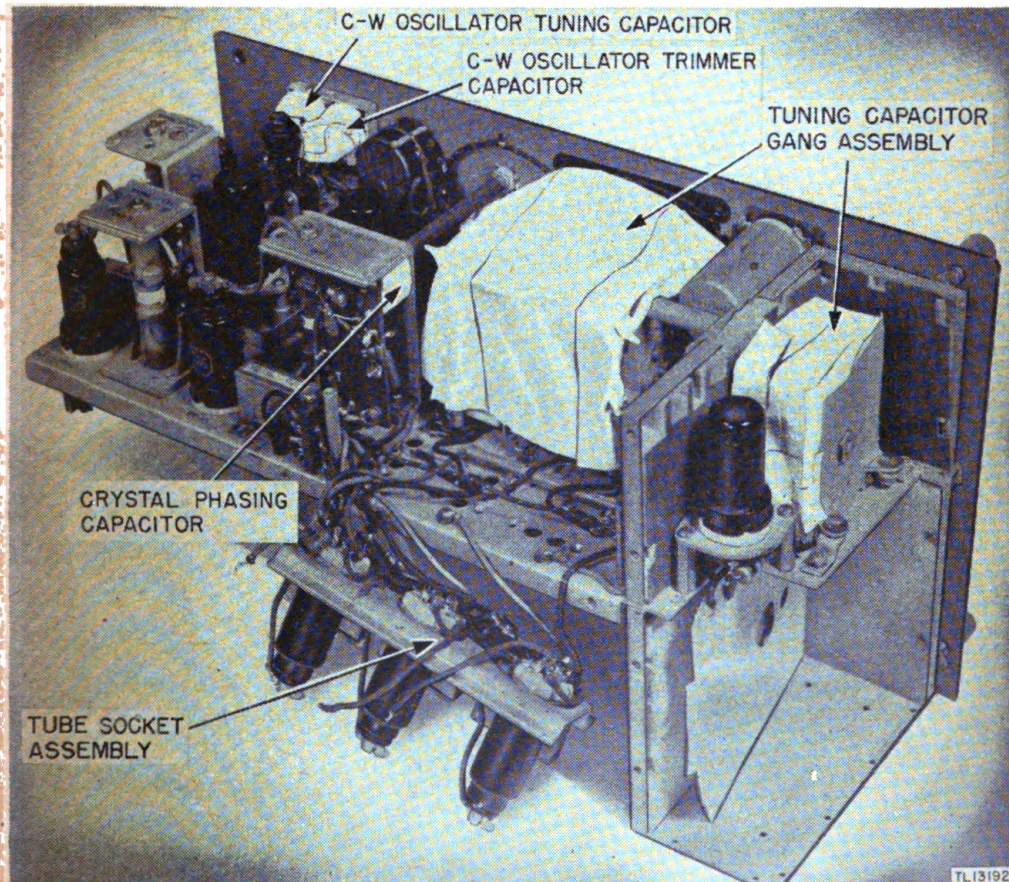

FIGURE 41.—Radio Receivers BC-312-(\*), BC-314-(\*), BC-342-(\*), or BC-344-(\*)—top rear view of chassis showing components covered with masking tape.
(f) Remove the screws holding the tube socket assembly to the chassis. Allow the assembly to hang freely on the wiring (fig. 41).
Cover the following components with masking tape as shown in figures 41, 42, and 43:
(1) C-w oscillator tuning and c-w oscillator trimmer capacitors (fig. 41).
- (2) Crystal phasing capacitor (fig. 41).
- (3) Tuning capacitor gang assembly (fig. 41).